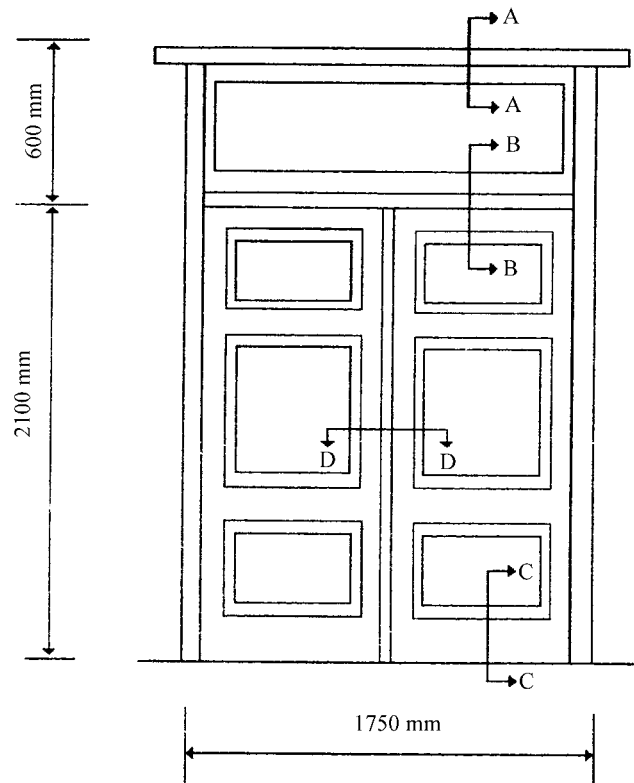

Fig. 1
1. The external elevation of the main entrance to an office building is shown in Figure 1. The pair of 58 thick Oak framed doors with raised and fielded panels are hung to a 120 x 70 rebated and moulded frame having a 58 thick fixed fanlight above a 120 x 70 transom. The door panels are finished with bolection moulding on the outside, and planted bead moulds on the inside.